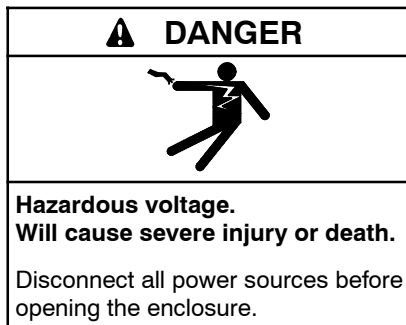

Figure 7-6 Installing the Power Panel
13. Install the new power panel onto the studs in the back of the enclosure. See Figure 7-6.